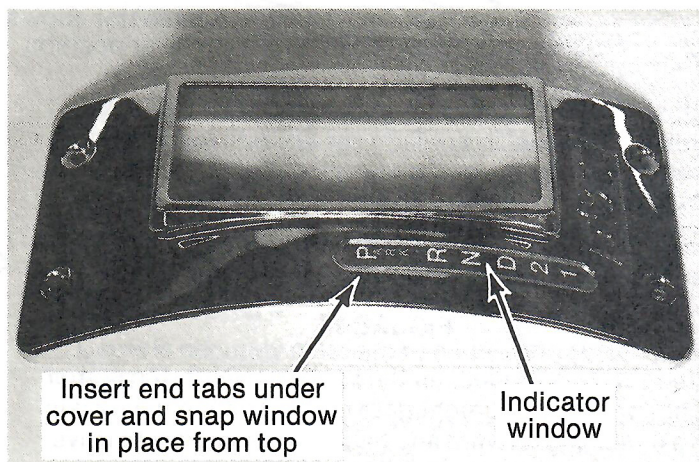

FIGURE 12
Step 27. Snap indicator window in place on cover (See Fig. 12). Window snaps in from top with tabs inserting under cover. The indicator window supplied with the shifter works with standard shift pattern automatic valve bodies. If your vehicle is equipped with a reverse pattern manual valve body, Manual Indicator Window, P/N 80618, is available from your B&M dealer.